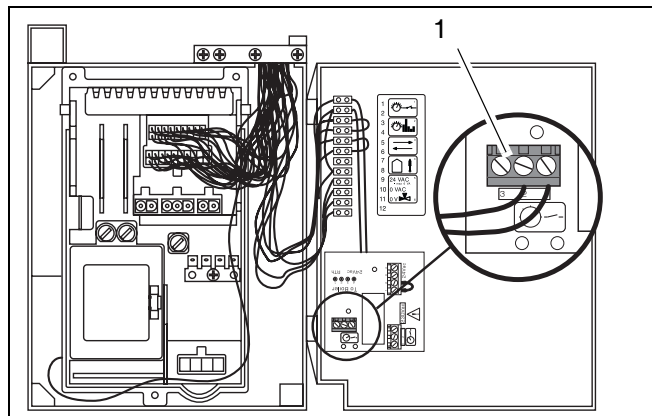

Fig. 21 Connection box in burner-control unit - volt free connection
- Fix the wire to terminal 1 and 2 of the volt free connection (fig. 21, item 1).